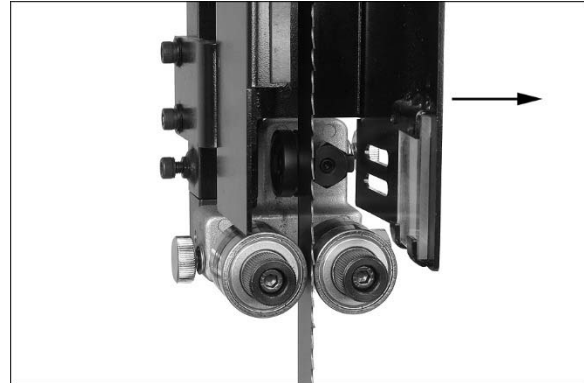

Figure 7-6
Refer to Figures 7-6, 7-7 and 7-8.
- Pivot guide post cover out of the way (Figure 7-6).